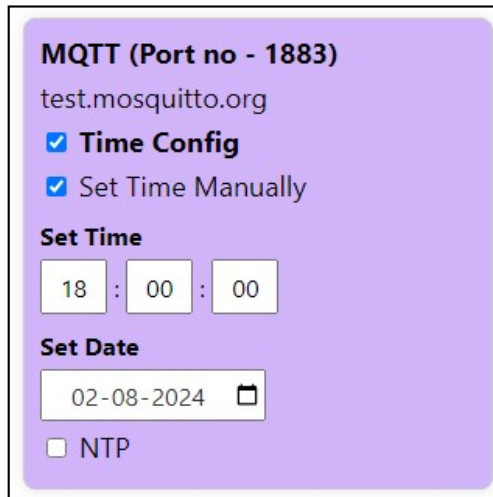

Figure 52: Set Time Manually
1. **Set Time Manually:** Selecting this option allows the user to adjust the device time and date manually according to local requirements. Upon selection, user are prompted to enter their preferred time and date settings, as shown in Fig 52.